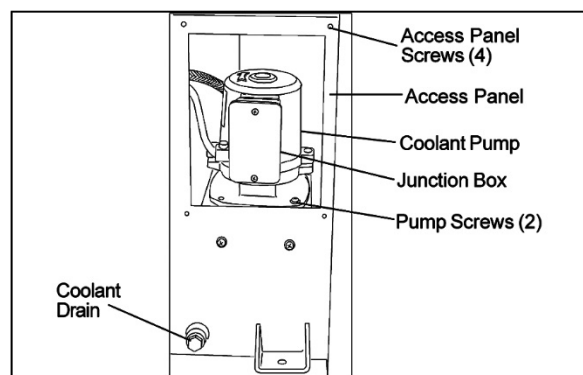

Figure 21: Coolant pump replacement
- Remove four screws and the coolant pump access panel from the machine base (refer to Figure 21).